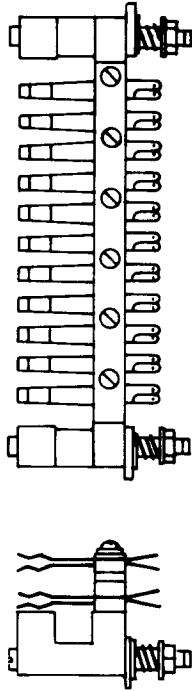

Fig. 25—496A Jack
**2.20 496A:** This multicontact jack (Fig. 25) is designed for flexible mounting. This jack is equipped with 33 pairs of contact springs. The contact springs are insulated from each other. This jack is provided with guide holes for locating the pins on the plug assembly of the KS-13882, L3, perforator in order to line up the contact springs of the jack with the contacts of the plug. The 496A jack is used with the plug assembly of the KS-13882, L3, perforator of the accounting center for the automatic message accounting system.